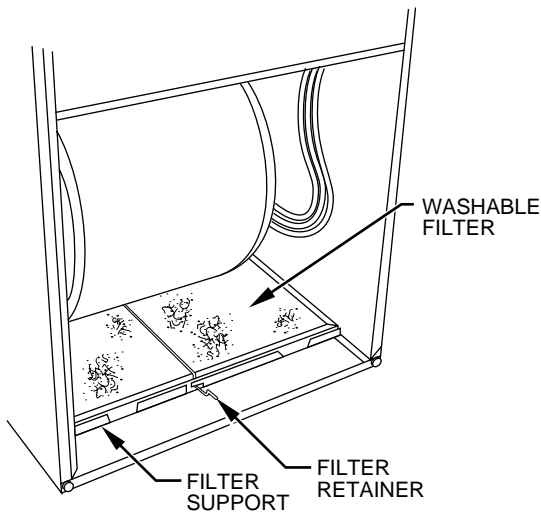

Fig. 3—Bottom Filter Arrangement
3. Release filter retainer wire. (See Figs. 3 and 4.)